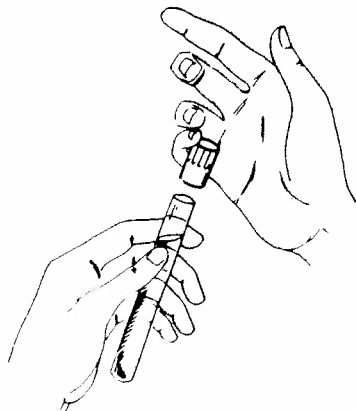

FIGURE 9-2
3. Remove the closure with the little finger of your right hand, as in Figure 9-2.